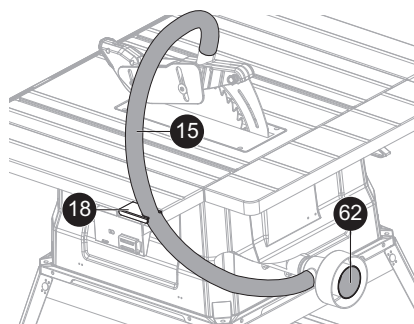

Fig. 9c
- > For the work piece passed successfully, to fix the dust extraction hose [15] in the slot of the hose hold [18] before sawing. (Fig. 9c)
- > To prevent sawdust buildup, for best result, attach a vacuum hose (not included) to the hole C [62] of the dust extraction adapter [1] (See Fig. 9c). DO NOT operate the saw with hose in place unless the vacuum is turned on.